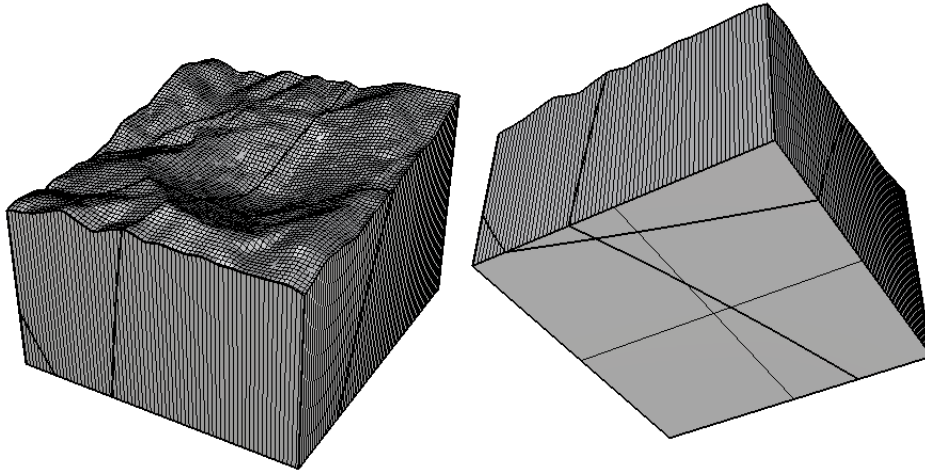

Figure 165: Two views of single polysurface representing pit and cross-cutting faults.
6. You now have a single non-manifold polysurface describing the entire computational domain and the faults (Figure 165).